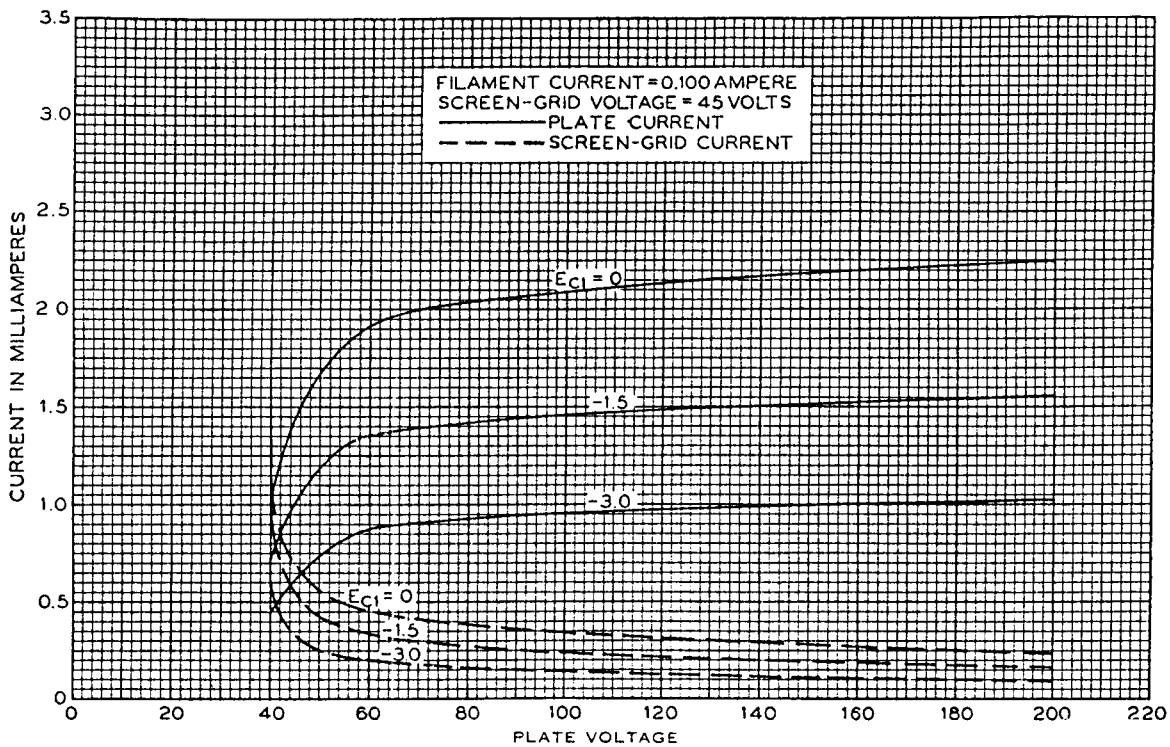
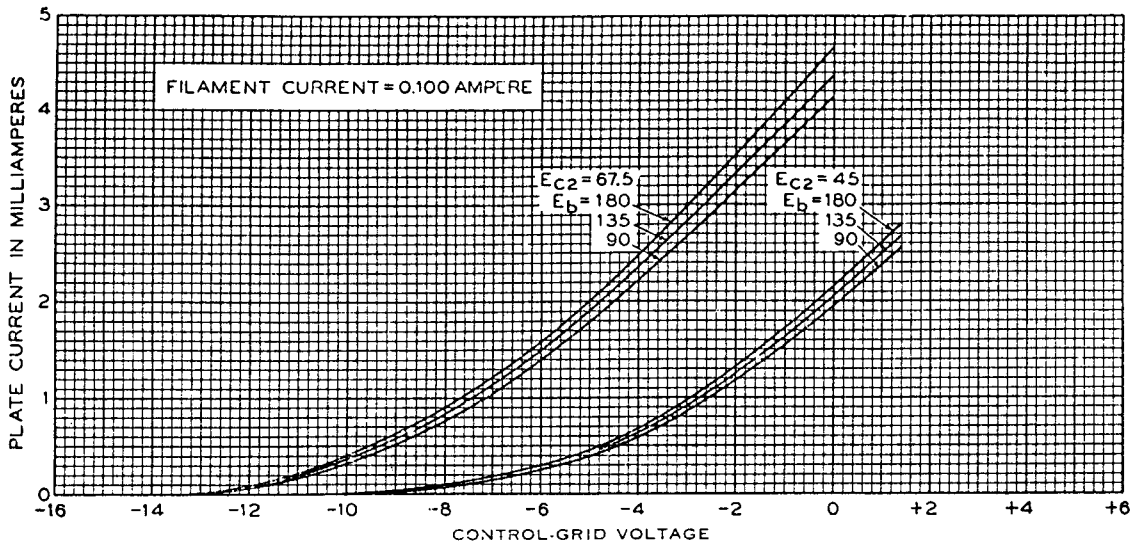
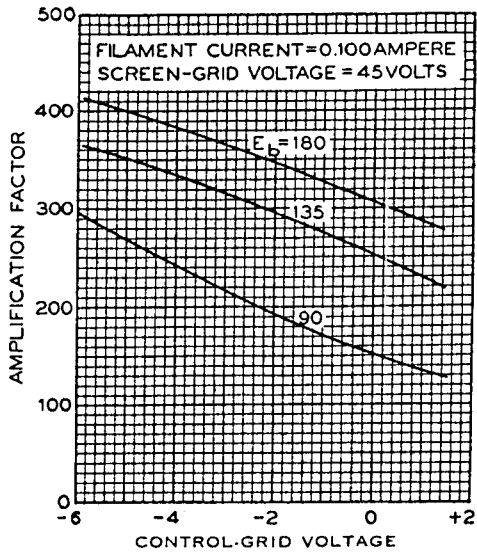

FIG. 3
FIG. 5
FIG. 8
**Characteristics**—Plate current and screen-grid current characteristics of a typical 246A tube are shown as functions of plate voltage for several values of control-grid voltage in Figures 3 and 4 for screen-grid voltages of 45 and 67.5 volts, respectively. The plate, screen-grid, and control-grid voltages are measured from the negative end of the filament. Plate current, screen-grid current, and transconductance characteristics are given in Figures 5, 6 and 7, respectively, as functions of control-grid voltage for the same two values of screen-grid voltage and three values of plate voltage. Corresponding amplification factor and plate resistance characteristics are given in Figures 8, 9, 10 and 11.